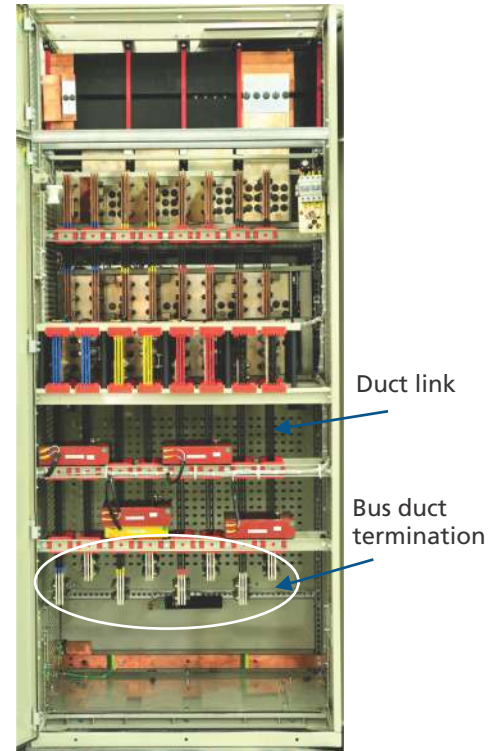

Figure 28 - Bottom Busduct termination
- Connect the flats of the busduct with the links at the end of the busduct link using the flexibles Figure 28.